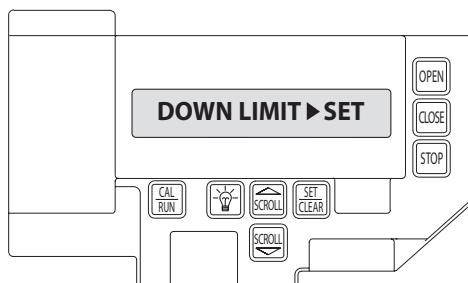

Figure 7
- 4) Press SET/CLEAR  key to switch display to "UP LIMIT>SET" or "DOWN LIMIT>SET." **Figure 7**.
- 2) Press SCROLL  until display reads "UP LIMIT>SET" or "DOWN LIMIT>SET." **Figure 7**.